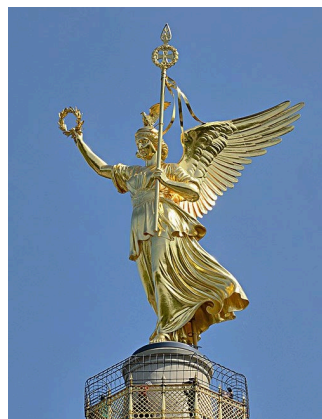

Fig. 2: A gold-plated statue in Berlin
3. In Fig.2 you can see a gold-plated statue. Give reasons why one chooses the element gold for this.